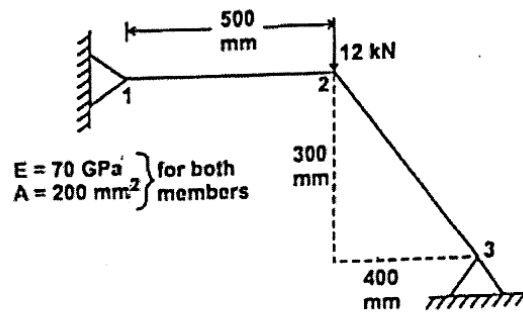

Fig. 16(a)
16. (a) For the two bar truss as shown in Fig.16(a) determine the displacement at node 2 and the stresses in both elements.